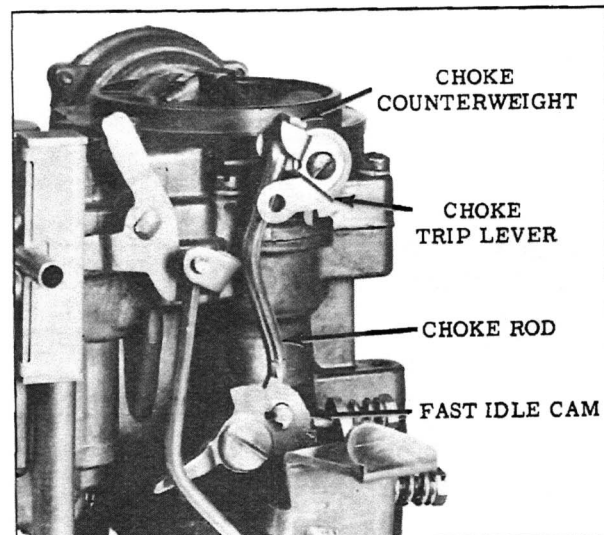

Fig. 15 Fast Idle Cam and Linkage
- Remove fast idle cam retaining screw. (See Fig. 15)